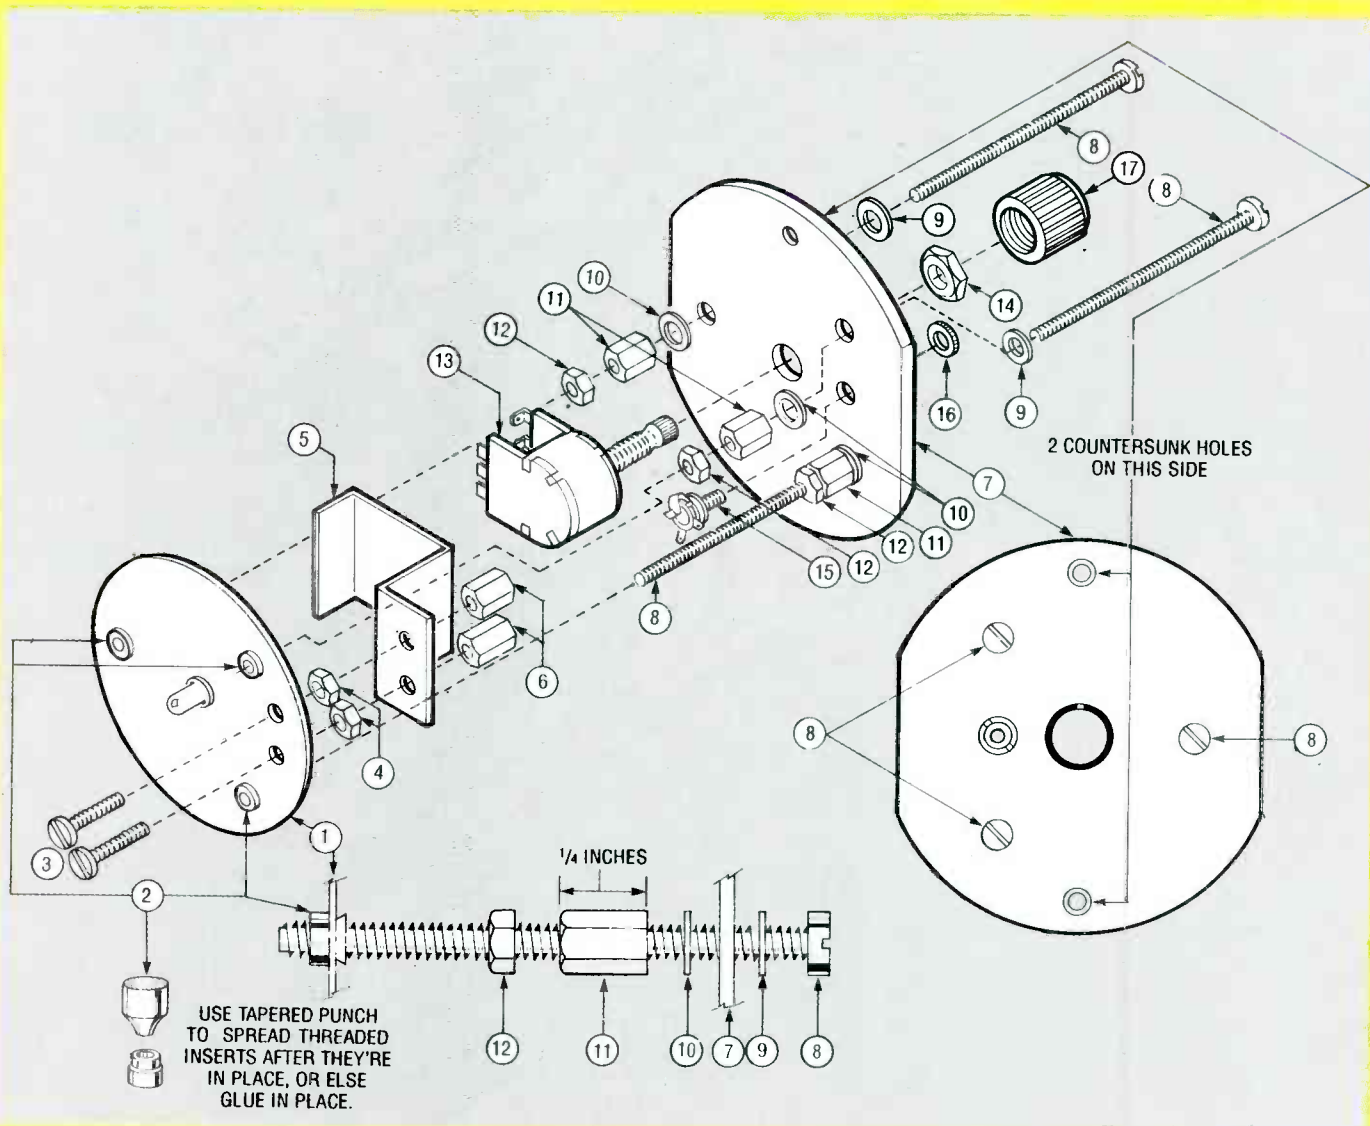

FIG. 1—THE TRANSMITTER is assembled as shown. Look over the assembly instructions carefully before starting the project.
Let's start our mechanical assembly with the transmitter. To build it, Fig. 1, take the completed PC board (1) and install the two potentiometers (2) and the battery holder (3) by first inserting the narrow end of an insert through each of the holes on the edge of the PC board. (The narrow end should now be protruding on the solder side of the board.) By resting the wide end of the insert on a solid surface, the narrow end is spread apart by giving it a whack with a tapered punch. Otherwise, you can use some *Krazy Glue* or RTV silicone to secure them to the board.
Next, take two 1/2-inch long screws (4), insert them in the proper holes, and secure them with a nut (4). Then place the battery holder (5) over the ends of those screws as shown in Fig. 1, and secure the battery holder with two 1/2-inch long threaded spacers (6). (The battery is held down by tightening those spacers with the battery in place. Just be sure that the battery has
| PARTS LIST FOR THE TRANSMITTER (FIG. 1) | | |